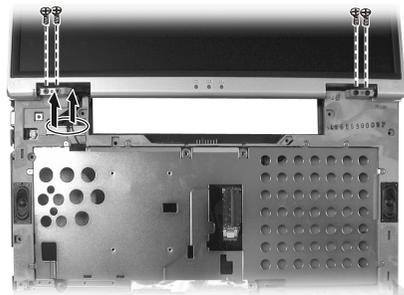

Figure 2-21 Remove the four screws and
6. Disconnect the two cables and remove the four screws. (Figure 2-21)